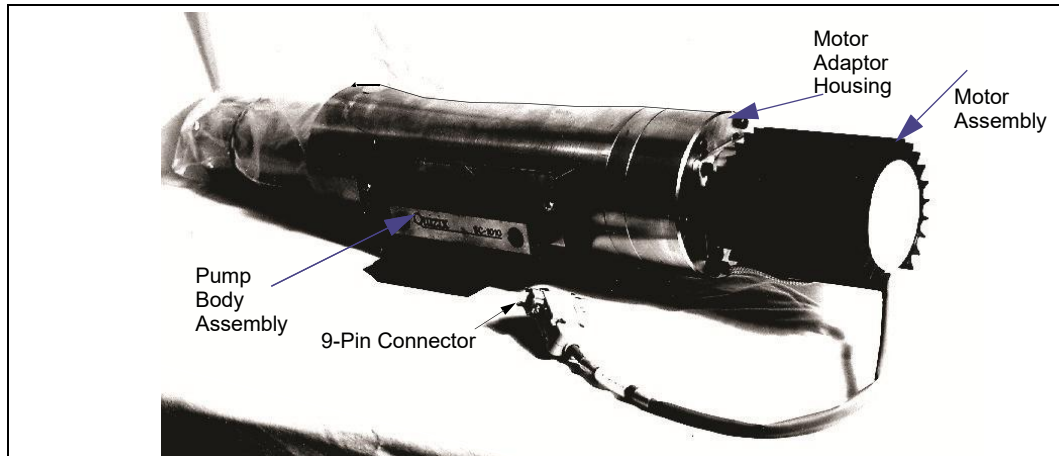

Figure 13-8 **Pump Motor Assembly**
1. Power down the complete pump system, especially the CMD-5000 Dual Controller Driver, and disconnect the 9-pin connector on the motor cable from the CMD-5000. See Figure 13-8 for the three major assemblies discussed in this procedure.